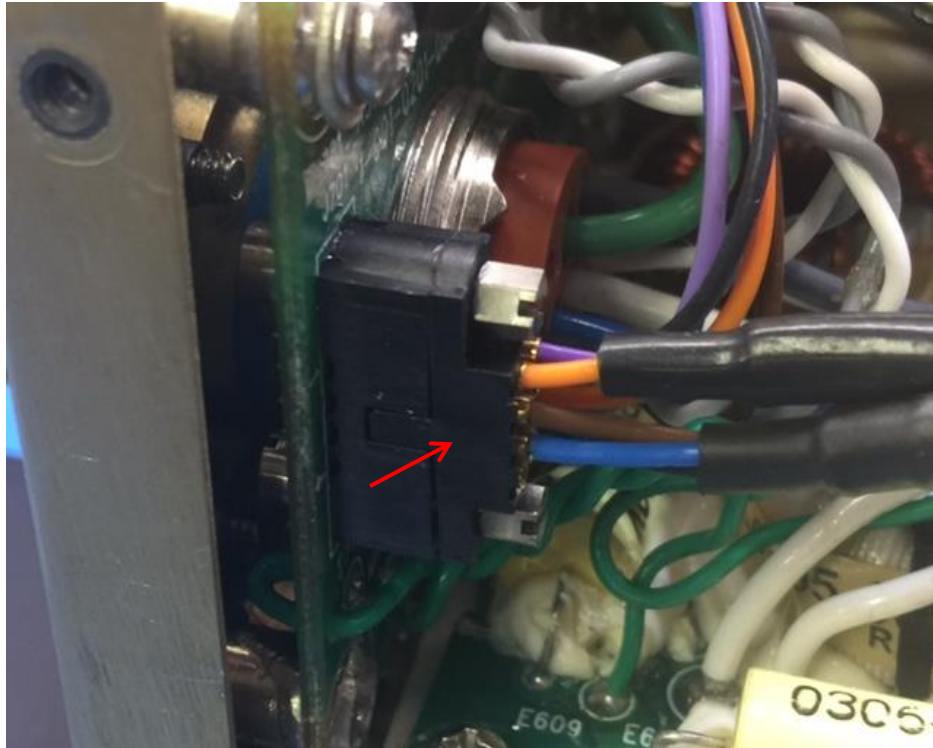
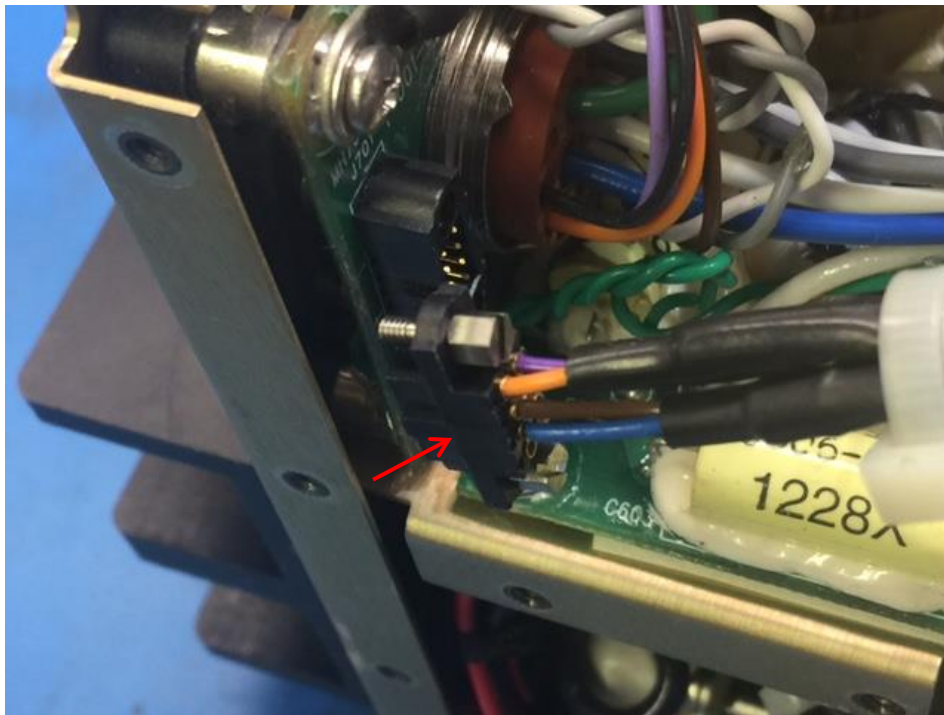

Figure 5
Figure 6
6. Disconnect the connector from the AC connector/ alarm assembly. (Figure 5, Figure 6).
43. Connect the connector from the AC connector/alarm assembly (1-002-0108-0255). (Figure 5, Figure 6).